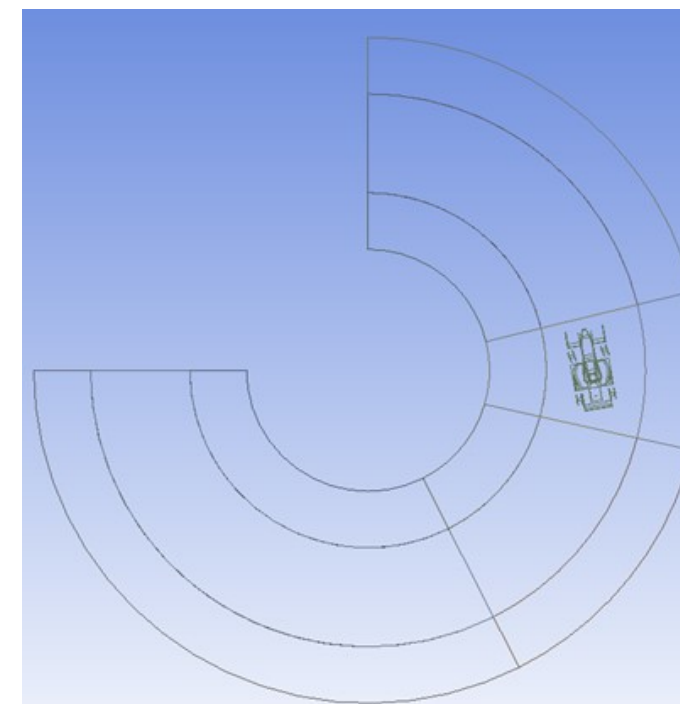

Figure 5—Rotating Domain
**Car Model :** Rotating Domain (Figure 5,6)